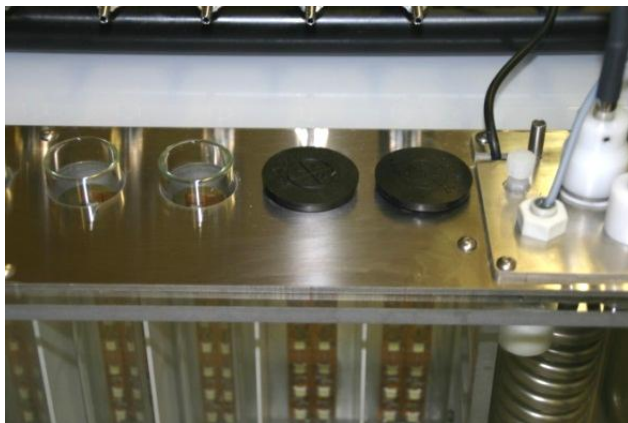

Fig 15. Closed slots of the cultivation vessel.
**Note:** Please note that not all 8 cultivation vessels have to be used. In such case scale down accordingly the volume of inoculums and required media and close the unused cultivation vessel slots by a lid to avoid water evaporation (Fig. 15).